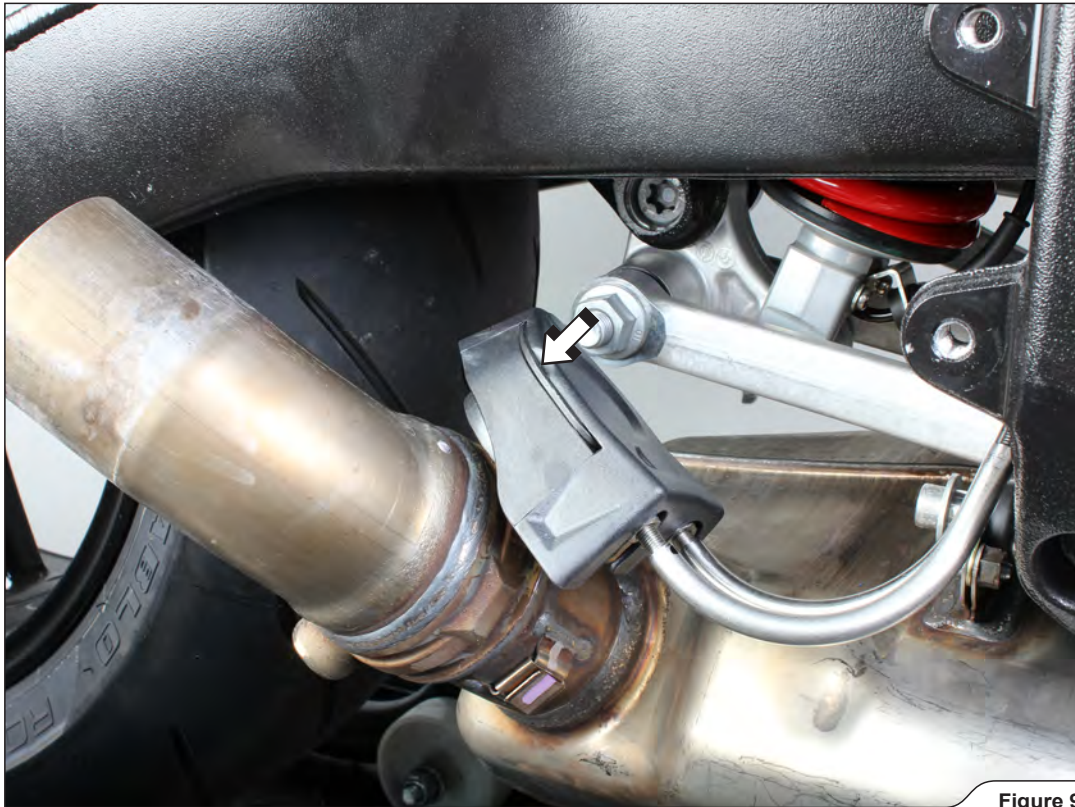

Figure 9
9. Undo the spring clip, remove the exhaust valve's cover, unscrew the marked cables' nuts and remove the cables off the valve (Figure 9, 10).